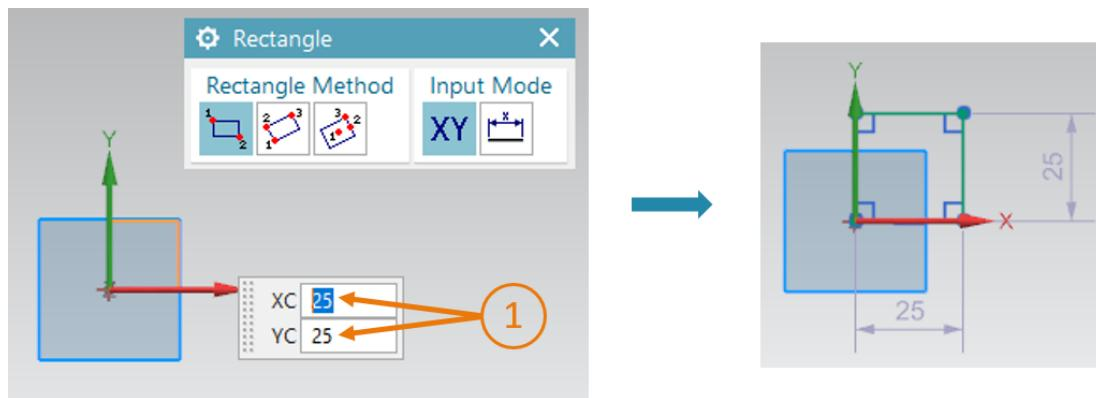

Figure 13: Preparing the sketch for the cube – Part 2
- Once the first point of the square has been created, the second point must also be added. Enter **XC = 25** and **YC = 25** as the coordinate values for this (see Figure 13, step 1), and confirm the inputs once again with the Enter key. Be sure to select the "X/Y coordinates" input mode in this case as well. You should now see the square with side lengths of 25 mm (see Figure 13, right side). This completes the sketch for the cube.